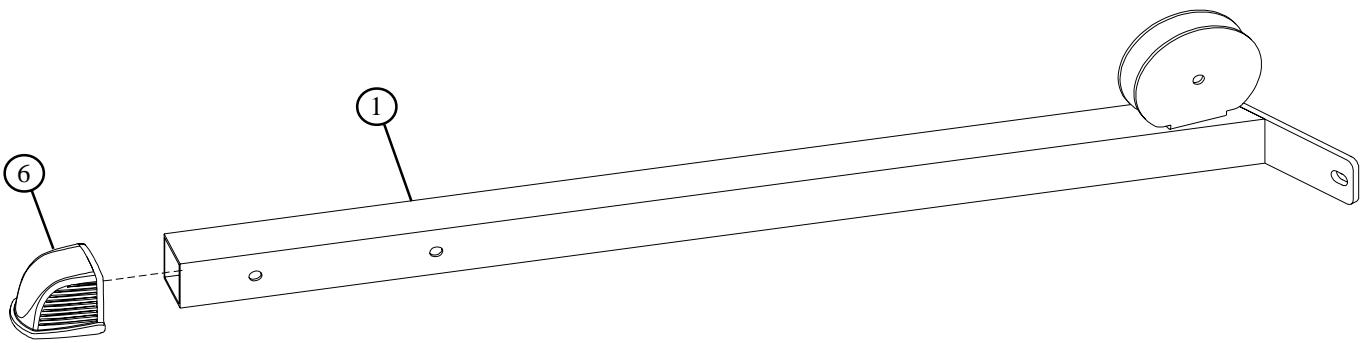

FIGURE 4
- If not already installed, slide one 2" SQ. COVER CAP (6) over the FRONT LEG (1) as shown in FIGURE 4.